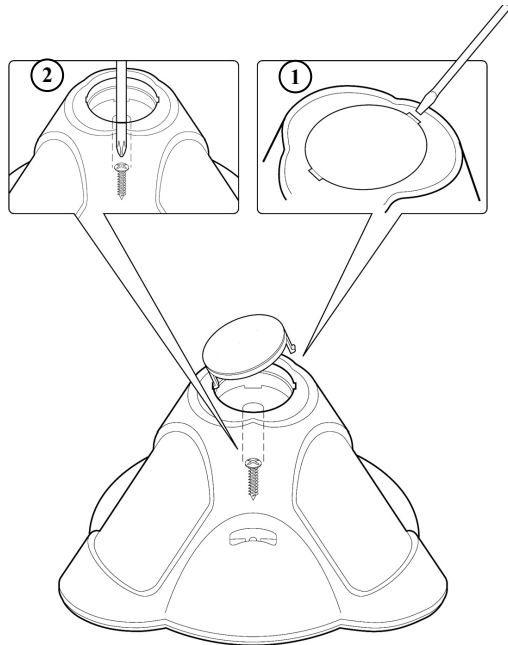

FIGURE 1
To open the detector (**Figure 1**), remove the cover by inserting a screwdriver (1) in the recess between the detector's protection cap and the cover. The cover will remain attached to the base of the detector.